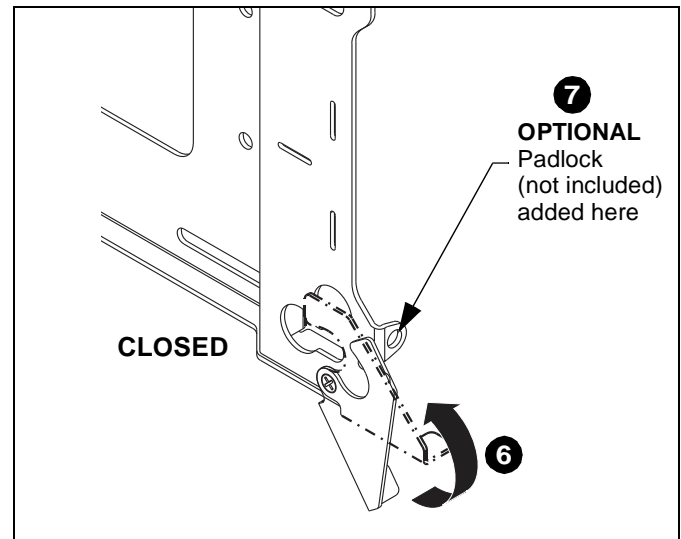

Figure 10
6. Move latching flag to **CLOSED** position. (See Figure 10)
7. **OPTIONAL:** Lock latching flag in place, if desired. (See Figure 10)